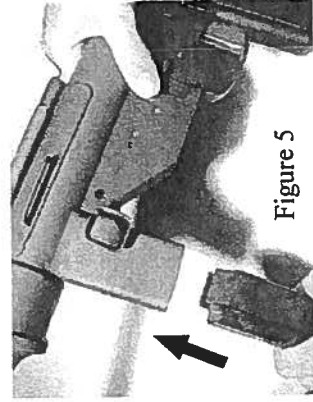
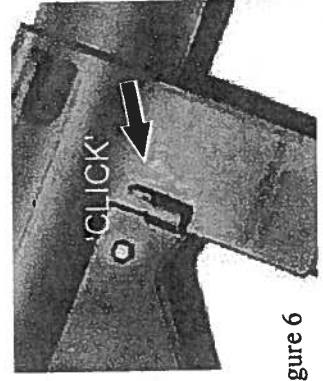

Figure 5
Figure 6
Insert magazine into the magazine well, (figure 5). Firmly push it up into the gun until it engages and "clicks" into the magazine catch (figure 6). Give the magazine a good slap at the floor plate to ensure engagement. The maximum capacity of the standard USGI magazine is (30) rounds. Do not exceed this capacity as it may damage the magazine or cause the gun to malfunction.